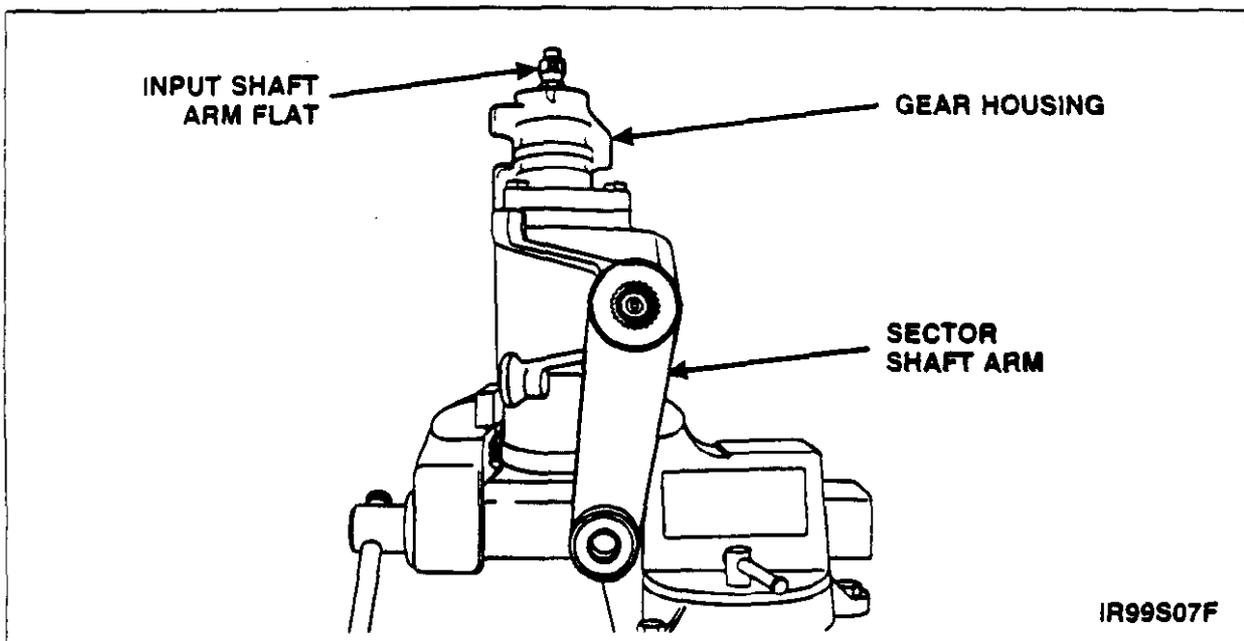

FIGURE 6
- Rotate the sector shaft so the input shaft makes two (2) turns and the flat spot on the input shaft is aligned with the mark on the gear housing.
2. With the steering gear mounted with the input shaft pointing up, install the sector shaft arm so that it is pointed downward as shown. Tighten the nut to 270 Nm (199 lb-ft). See Figure 6.